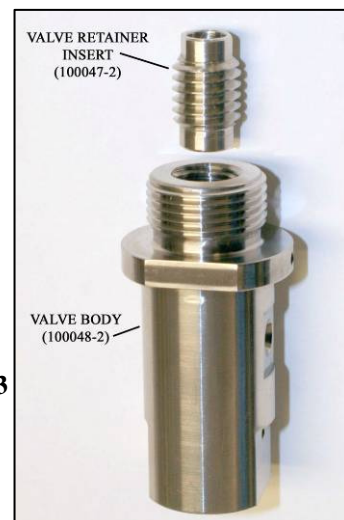

Figure 3
8. Remove the Valve Retainer Insert (100047-2) from the opposite end of the valve body. DO NOT DISCARD. **See Figure 3.**